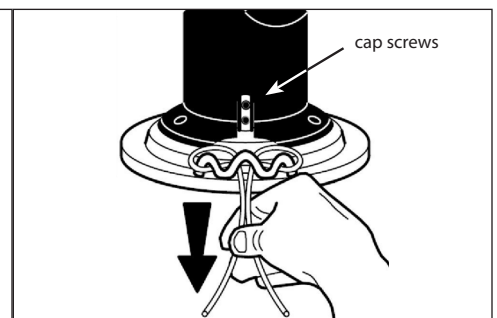

FIGURE 12: Check ends of line.
5. Then, check to make sure that the ends of the line are even. **SEE FIGURE 12**